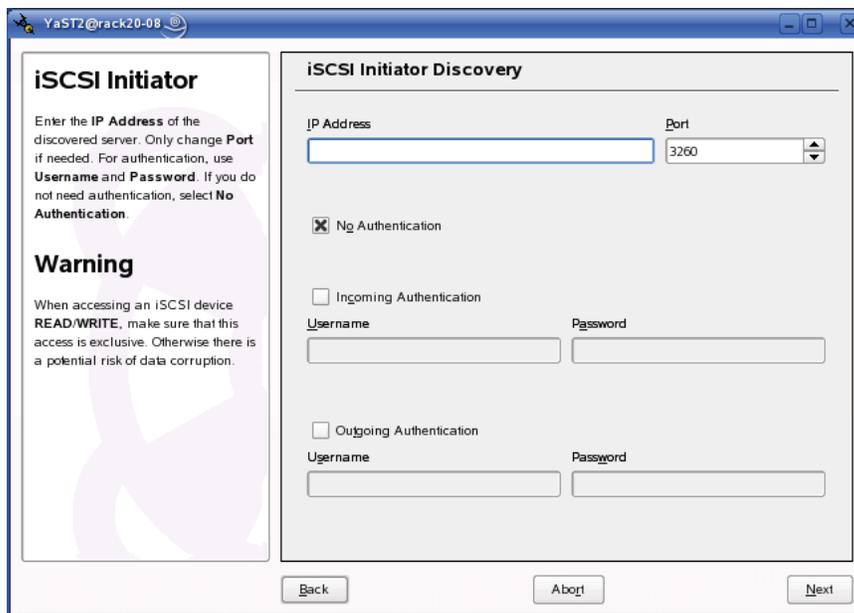

Figure 34 Discovered Targets tab
3. Click the **Discovered Targets** tab and enter your iSCSI target IP address (Figure 34).